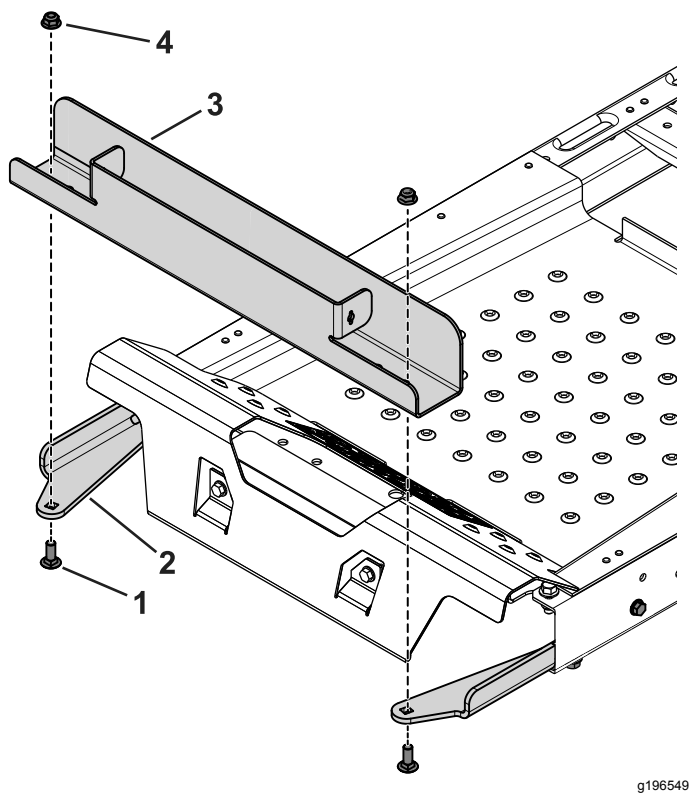

Figure 4
3. Use the 2 carriage bolts (3/8 x 1 inch) and flange nuts to secure the weight tray to the mounts (Figure 4).